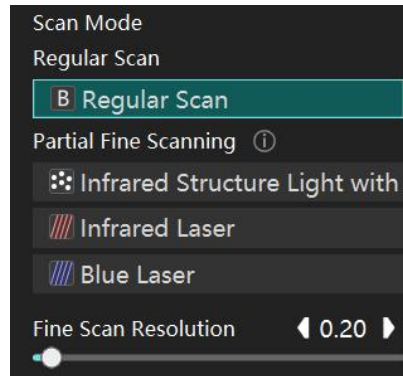

Figure 7-19 Parameters of Partial Fine Scanning
2. In far-distance scanning, the left control panel provides two scan mode options in the "Scan Mode" column, which is shown in Figure 7-19: